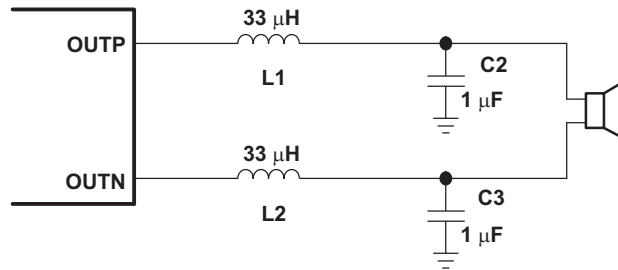
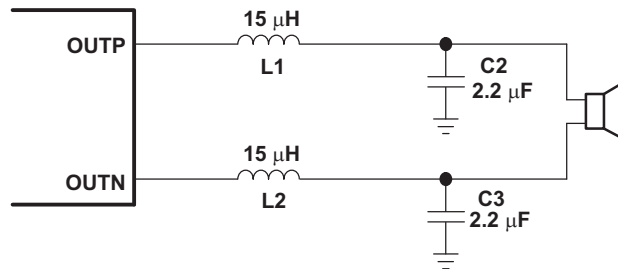

Figure 39. Typical LC Output Filter, Cutoff Frequency Of 27 kHz, Speaker Impedance = 8 Ω
Figure 40. Typical LC Output Filter, Cutoff Frequency Of 27 kHz, Speaker Impedance = 4 Ω
- Output filter—The ferrite EMI filter (Figure 41) should be placed as close to the output terminals as possible for the best EMI performance. The LC Filter (Figure 39 and Figure 40) should be placed close to the outputs. The capacitors used in both the ferrite and LC Filters should be grounded to power ground.